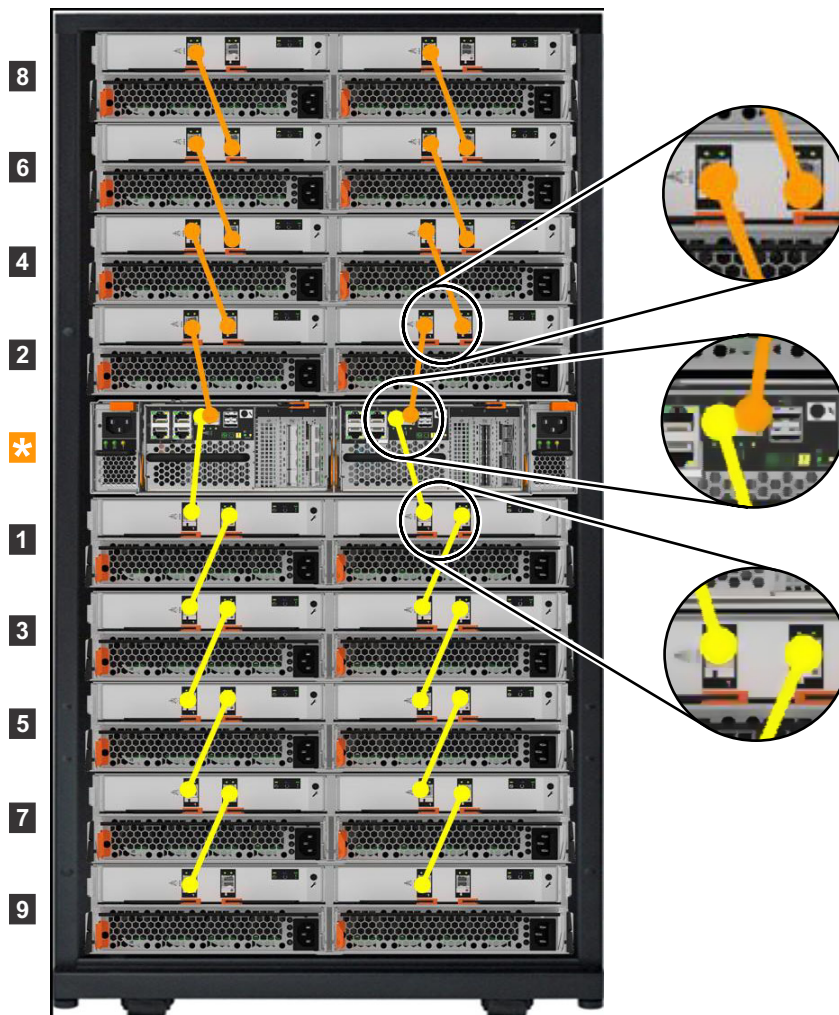

Figure 22. Connecting the SAS cables
- No more than ten expansion enclosures can be chained to SAS port 1 of a node canister. The expansion enclosures in this chain should be installed below the control enclosure (as shown in Figure 22 on page 24).
- No more than ten expansion enclosures can be chained to SAS port 2 of a node canister. The expansion enclosures in this chain should be installed above the control enclosure (as shown in Figure 22 on page 24).